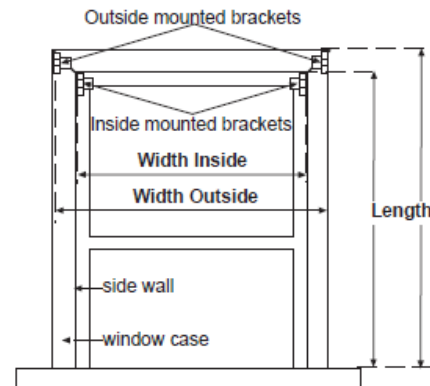

Figure 5. Measurements on a window
Step 1. See **Figure 5**.
Step 5. Mount the brackets to the window casing according to the marked locations in **Figure 5** (see page 1). **Figure 7** shows the proper bracket placement if the clutch is on the right end of the shade. If you want the clutch on the left end of the shade, reverse the brackets left and right.